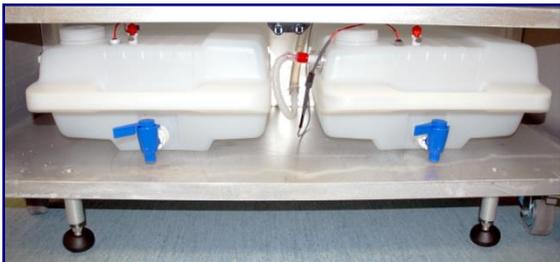

Figure 13a: Waste Carboys
2. The **<Change Password>** box (Fig.13a) appears and changes may be made.